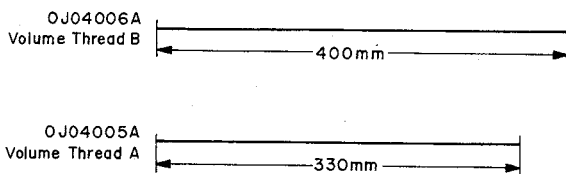

Fig. 5.2.1
- (1) Refer to Figs. 5.2.1 and 5.2.2. Make knots at the ends of Thread A (0J04005A) and Thread B (0J04006A) and bond them with AVDEL BOND #C2.